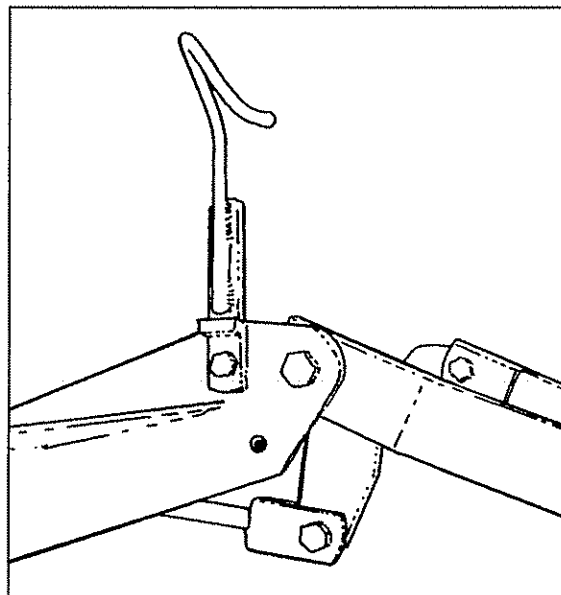

FIGURE 27
3. Attach hose bracket to the mower with (1) - 5/8" x 2" bolt, (1) - lockwasher and (1) - nut. See Figure 27.